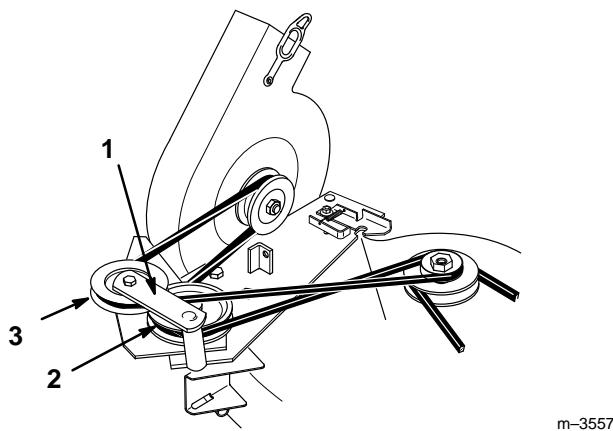

Figure 16
2. Open latch and swing the blower out away from the mower, install the blower belt around idler and blower pulleys as shown (Fig. 16).